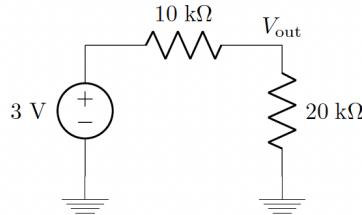

Figure 1: Resistor circuit.
- P1. For the voltage divider in Figure 1, calculate V_{out} and the current through the $20\text{ k}\Omega$ resistor.